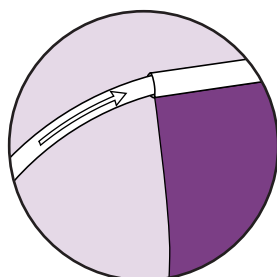

Fig 9.
11. Slide the sleeve of the flag over the curved tube and down onto the main pole. (Fig 9)